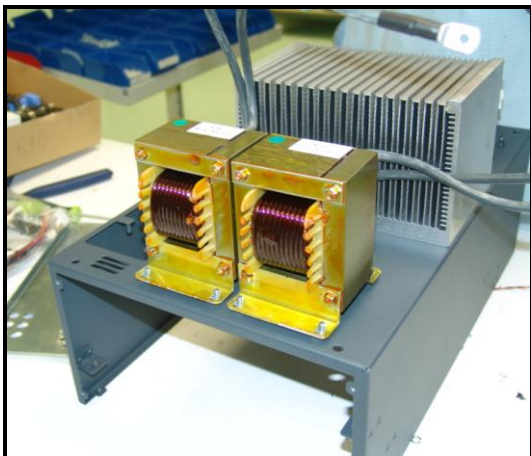

Figure 7.2.18
- 4) Remove the top of the chassis and put it face down (see figure 7.2.18).